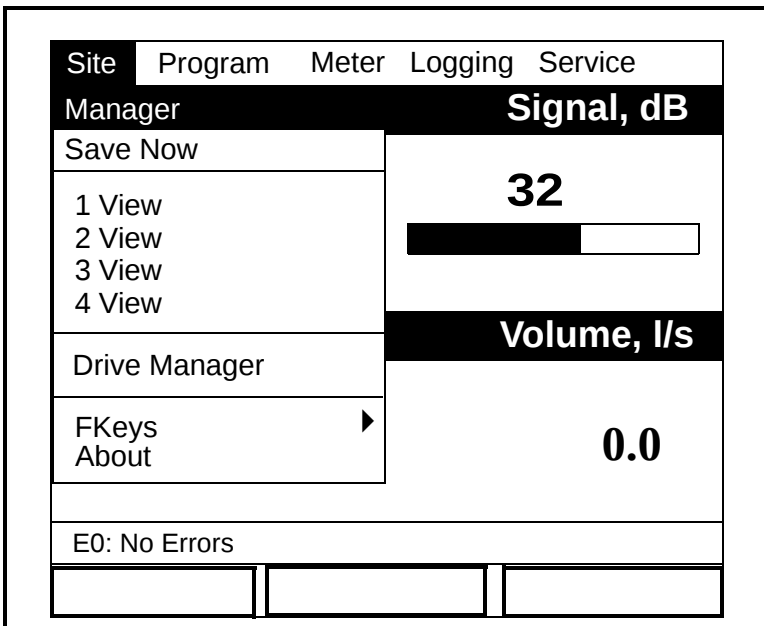
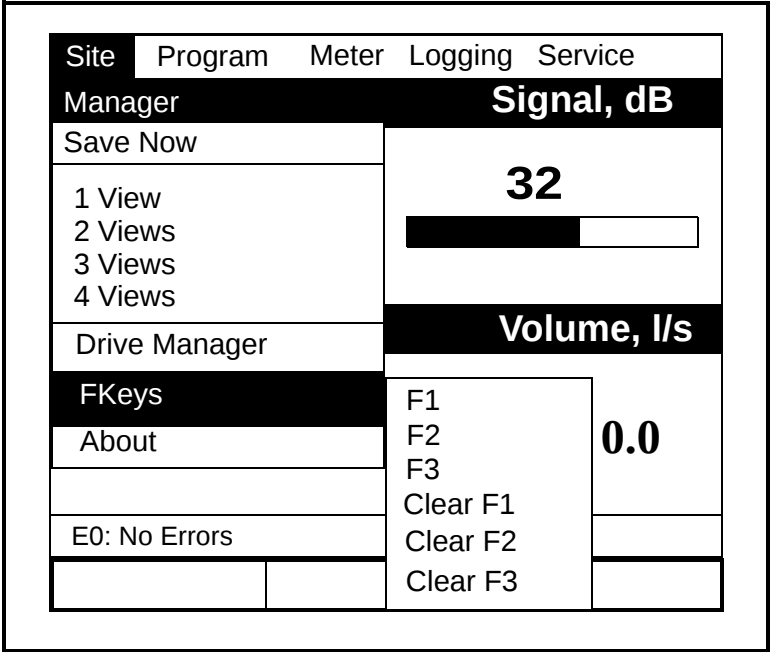
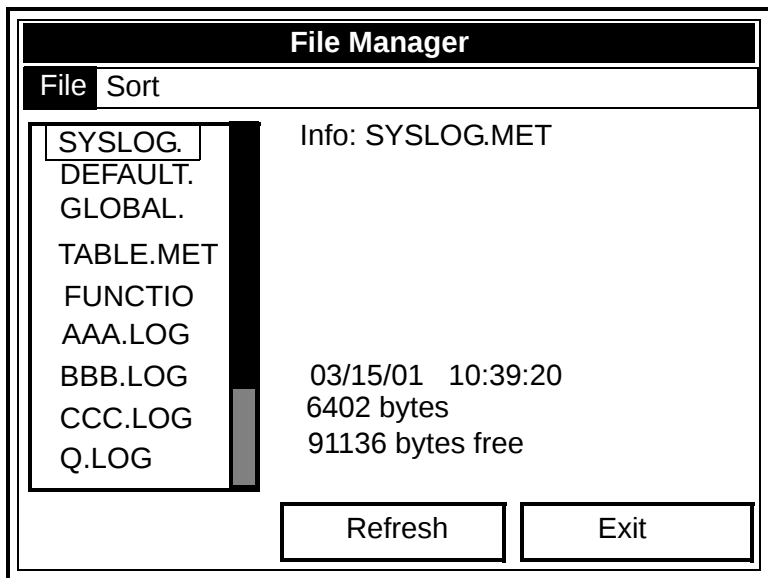

Figure 5-6: The Site Menu
Figure 5-8: The FKeys Menu
Figure 5-11: The Drive Manager Window
To enter the Site Menu, press the [MENU] key at the lower right of the PT878 keypad. The Menu Bar replaces the Status Bar at the top of the screen. The Site Menu will be highlighted in the upper left corner. Press [ENTER] or the [▼] arrow key. The screen now appears similar to Figure 5-6 below. While following the programming instructions, refer to Figure A-2 on page A-2 of Appendix A, *Menu Maps*.
As mentioned earlier, the PT878 can display one to four different measurement parameters simultaneously. However, sometimes you might wish to display only one or two parameters. To change the number of open display windows from within the Site Menu (shown in Figure 5-6 on the previous page), use the [▼] or [▲] arrow keys to move to the desired number of views (1 View, 2 Views, etc.) Press [ENTER].
1. From the Site Menu (shown in Figure 5-6 on page 5-9), use the [▼] or [▲] arrow keys to move to the FKeys entry on the menu. Press [ENTER]. The screen now appears similar to Figure 5-8 below.
1. From the Site Menu (shown in Figure 5-6 on page 5-9), use the [▼] or [▲] arrow keys to move to the FKeys entry on the menu. Press [ENTER]. The screen now appears similar to Figure 5-8 on page 5-11.
2. From the Site Menu (shown in Figure 5-6 on page 5-9), use the [▼] or [▲] arrow keys to move to the Drive Manager entry on the menu. Press [ENTER]. The screen now appears similar to Figure 5-11 below.